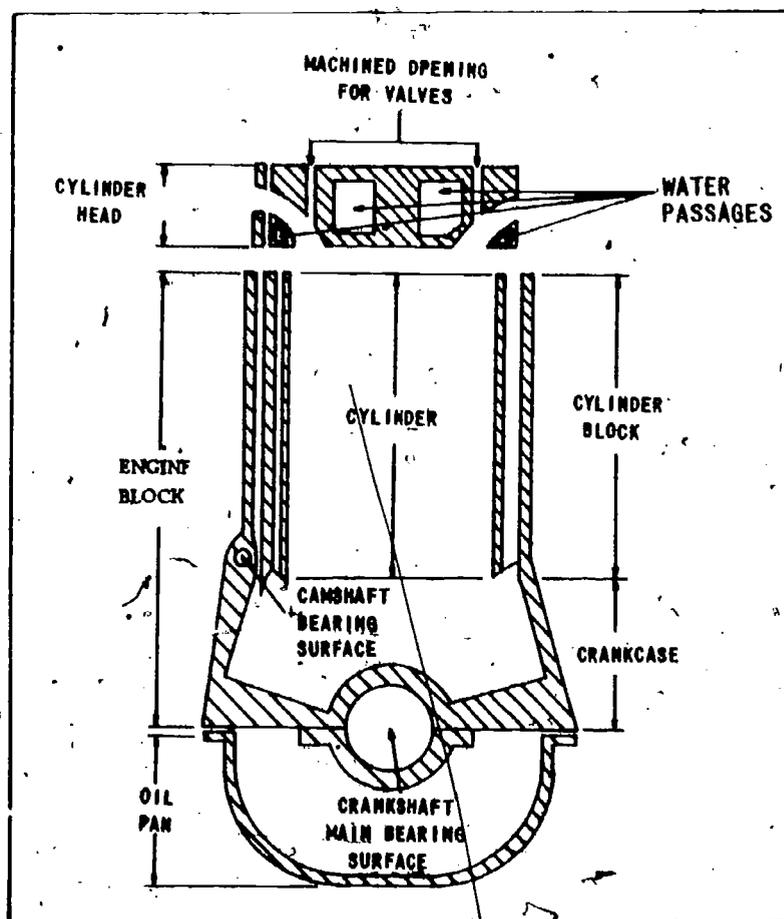

Fig 2-4. Structural engine parts.
- (1) Structural parts (fig 2-4). The structural parts support and keep the moving parts aligned; provide passages, jackets and chambers; support accessories; and resist forces set up by engine operation. The major structural parts are the engine block, head, and cylinders. The cylinders are sometimes cast as part of the engine block.